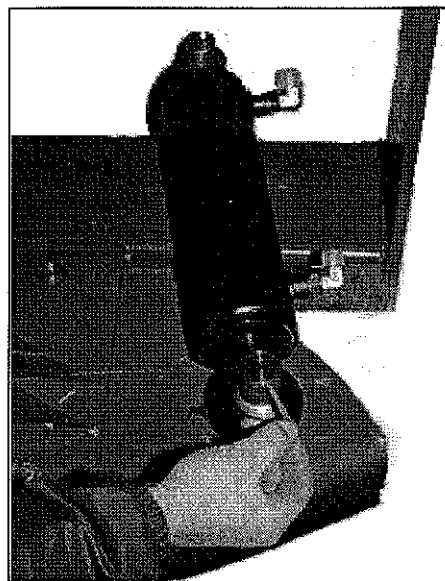

figure 15
- b. Install the cylinder with the barrel end on the mounting frame pin and the rod end on the swing plate pin. Secure with cotter pins (figure 15).